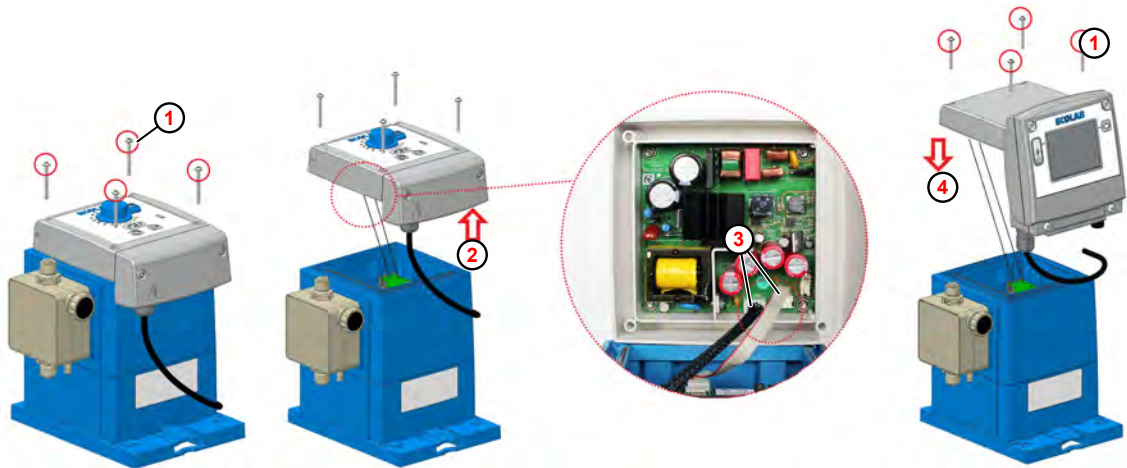

Fig. 37: Upgrade to EcoAdd
1. ➤ Loosen the screws (Fig. 37 , ①) on the **EcoPro** control unit using a Torx spanner (TX25).